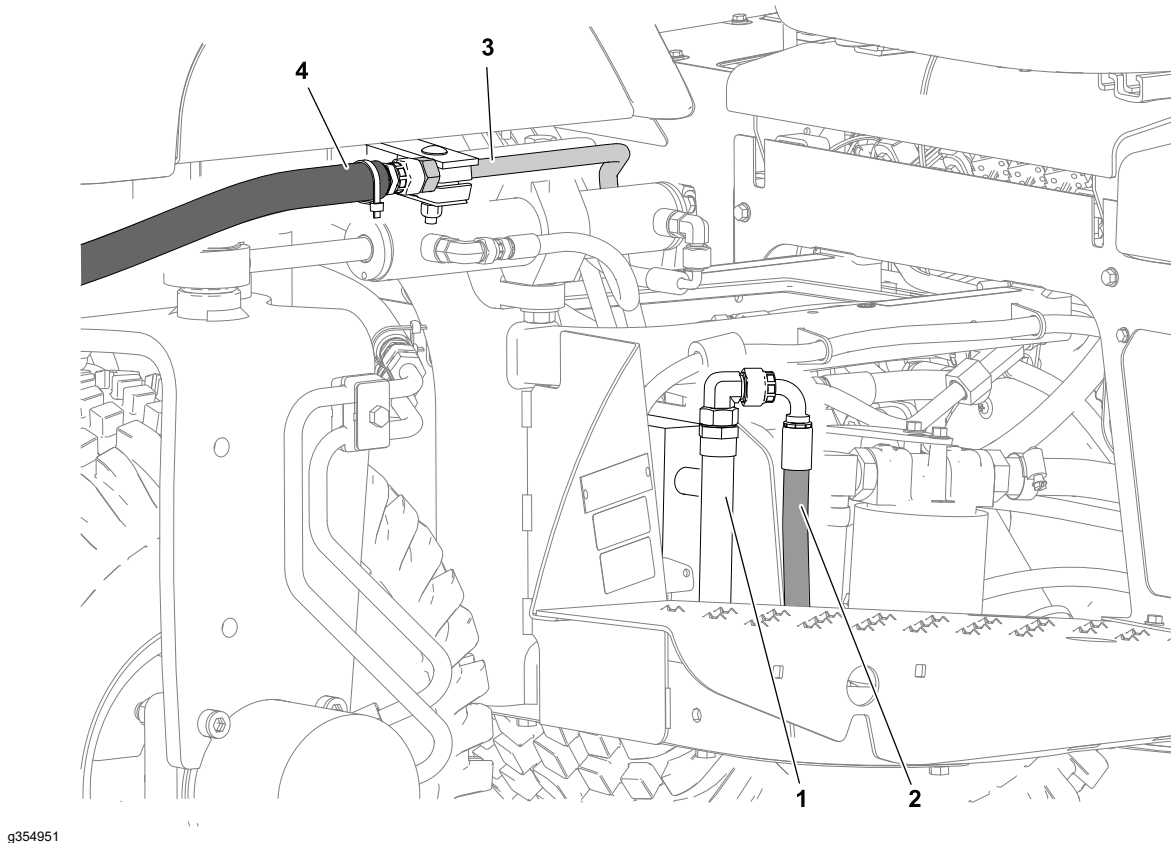

Figure 32
7. Clean the fittings and the hydraulic hose above the front wheel and on the left side of the hydraulic fluid cooler; refer to Figure 32.